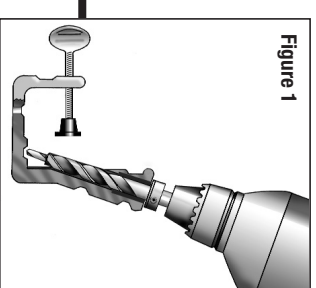

Figure 1
1. Ensure the stop collar on the step drill bit is positioned at the correct height on the step drill to prevent drilling into the jig base (see Figure 1). Use the included hex wrench to loosen/tighten the stop collar.